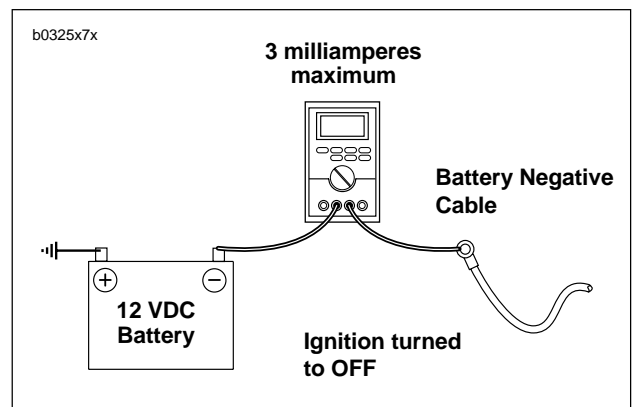

Figure 7-21. Milliamperage Draw Test
1. See Figure 7-21. Connect ammeter between negative battery terminal and battery. With this arrangement, you will also pick up any regulator drain.